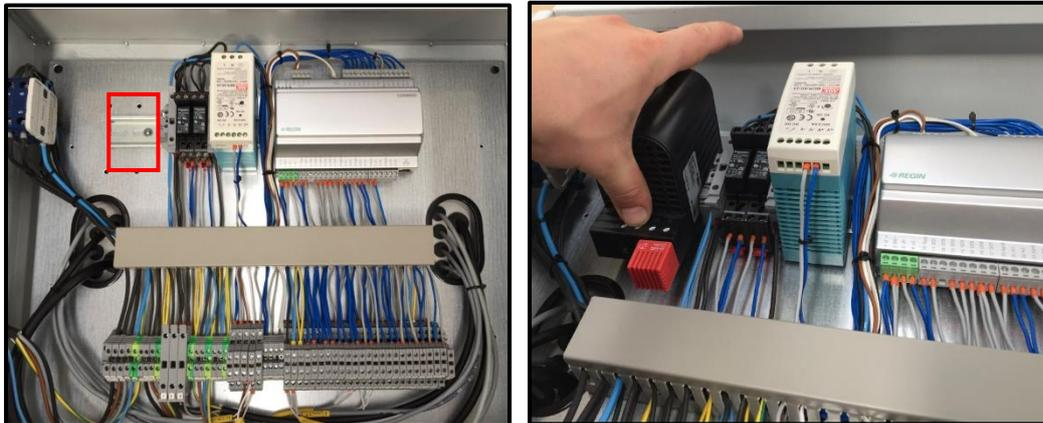

Fig. 144
2. Mount the e-box heater on the rail shown in the illustration (Fig. 144)